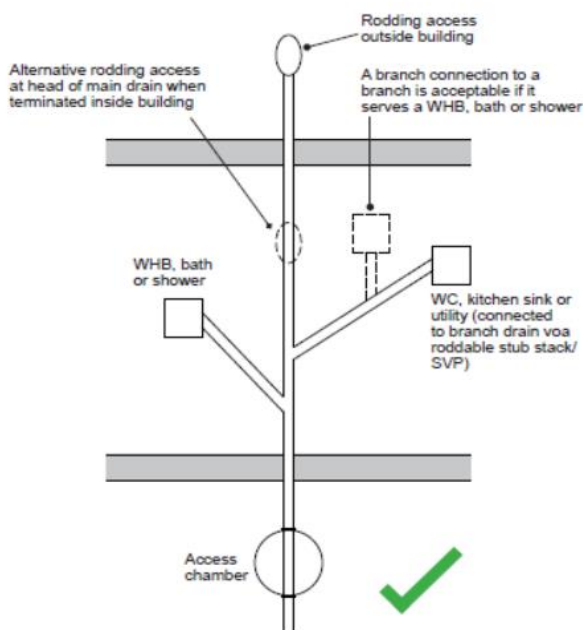

Figure 4
- Branch drains formed off Y-Junctions can be used where (see Figure 4):